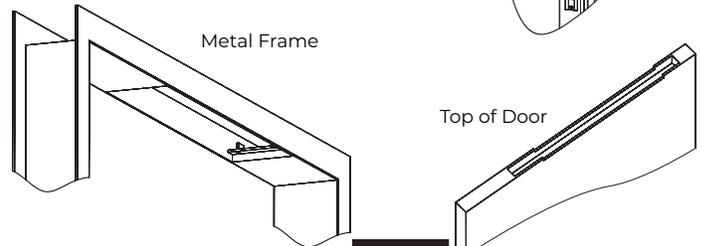

Figure 2
2. Using template provided with these instructions, prepare frame header and door for closer. (Figure 2)